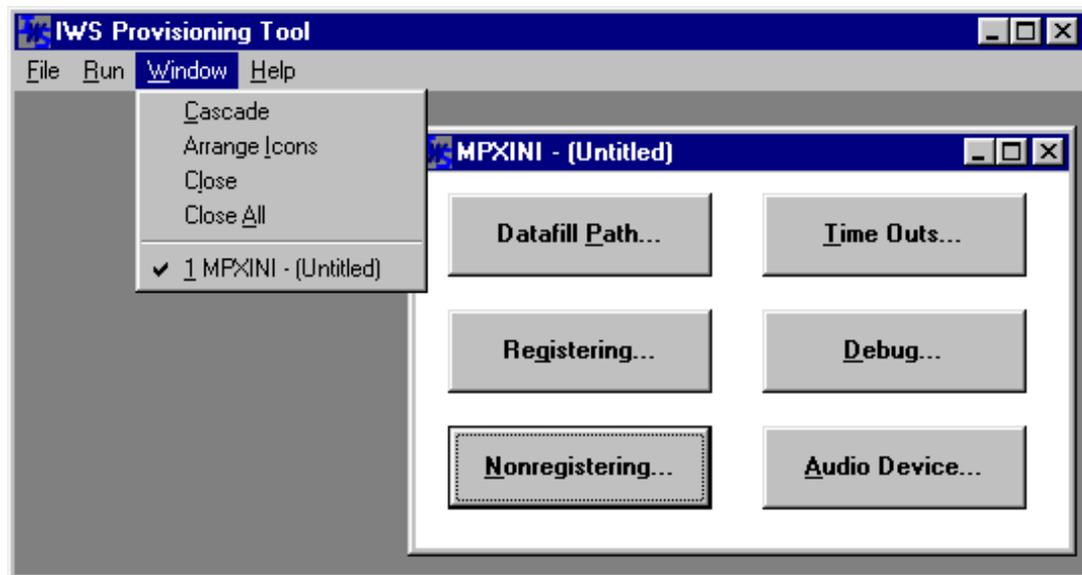

FIGURE 56. Example of MPXINI.INI configuration window
3. Select MPXINI. (See Figure 56.)
4. Select View Nonregistering Applications to see what nonregistering applications have been assigned. You cannot add a nonregistering application from this box. You must select the Nonregistering button shown in Figure 56 on page 97.